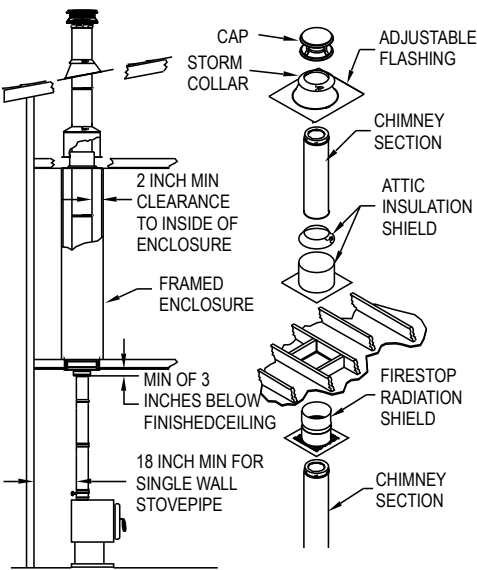
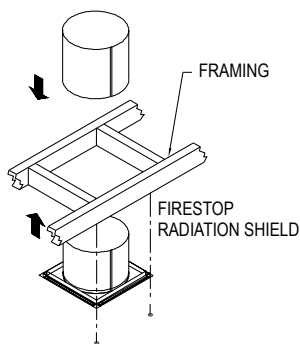

Figure 7
Figure 8
4. Frame Openings: Frame openings in each ceiling or floor above the Support Box (**Fig 7**). These openings are to hold the Firestop Radiation Shield and Attic Insulation Shield. Locate each opening by dropping a plumb bob to the four corners of the opening below. Maintain the minimum clearances and dimensions as specified in **Table 2**. If the Reduced Clearance Support Box is used (available for 6" diameter chimney only), the framing dimensions are 10-1/4" x 10-1/4". **Warning: other than the framing for the Reduced Clearance Support Box, any combustible materials around the chimney must still meet the minimum 2" clearance**
6. Install Firestop Radiation Shield: A Firestop Radiation Shield is required in multistory installations at each floor penetration above that where the Support Box is located. Example: in a multistory home where the appliance is on the ground floor (Support Box is in the 1st floor ceiling), you would need a Firestop Radiation Shield at the 2nd floor ceiling, and at the 3rd floor ceiling, etc., including where the chimney penetrates into the attic. Figure 7 shows a typical 2-story installation with an attic. Note: a Firestop Radiation Shield is not installed where the chimney penetrates through the roof. The Firestop Radiation Shield is installed on the underside of the ceiling/floor framing, with the cylindrical "tube" portion of the shield pointing upward (**Fig 8**). Use a minimum of either (1) 8 penny nail or (1) #8, 1-1/2" wood screws per corner. Refer to Table 2 for framing requirements.
- d. Slip the Attic Insulation Shield over the Chimney and Firestop Radiation Shield until the base sits squarely on the framed opening (**Fig 7 & 10**).